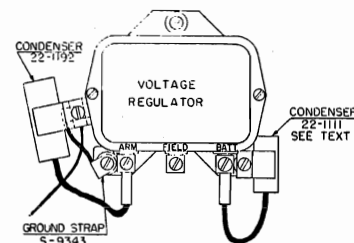

FIG. 4
1. Mount the voltage regulator condenser No. 22-1192 and the ground strap No. S-9343 on "ground" terminal of the voltage regulator. (Fig. 4.) Connect the lead of the condenser to the ARM. terminal of the voltage regulator. Connect the end of the ground strap to the lower, left hand voltage regulator mounting screw. (Fig. 4.)
2. Mount condenser No. 22-1111 under the lower right hand voltage regulator mounting bolt, and connect the lead to the BATT. terminal of the voltage regulator. (Fig. 4.)